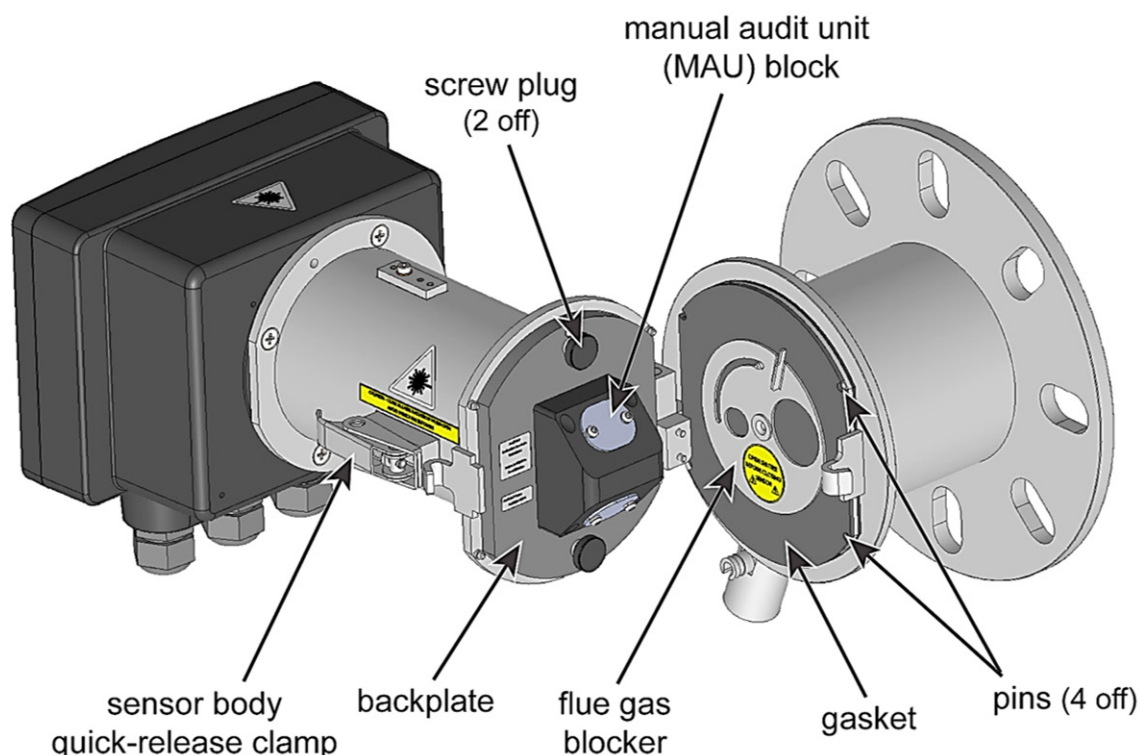

Fig. 5-4 Manual Audit Unit placed in the sensor
The Manual Audit Unit (MAU) is a standalone unit that is used to audit the instrument to ensure operational performance. The MAU is a single-value, compact audit kit or block. The audit unit filter is calibrated to yield a different instrument response; the value is labelled on the front of the MAU. The MAU is attached to the sensor body opening (see Fig. 5-4) to check the optical path and measure the instrument’s response to a stable scatter source.
- 2) Unhook the quick-release clamp and open the sensor body (Fig. 5-4).